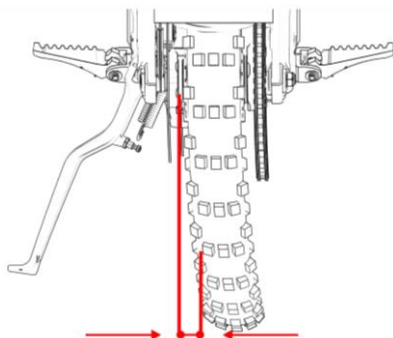

Fig 22
- Confirm wheels rotate automatically. Check whether wheels swing transversely (see Fig 22). If they swing transversely, measure their transverse motion through indicator. If transverse motion exceeds 1.5mm, check whether wheel rim is deformed or bearing is damaged. If wheel rim is in a good condition, check whether tire is installed on wheel rim correctly.